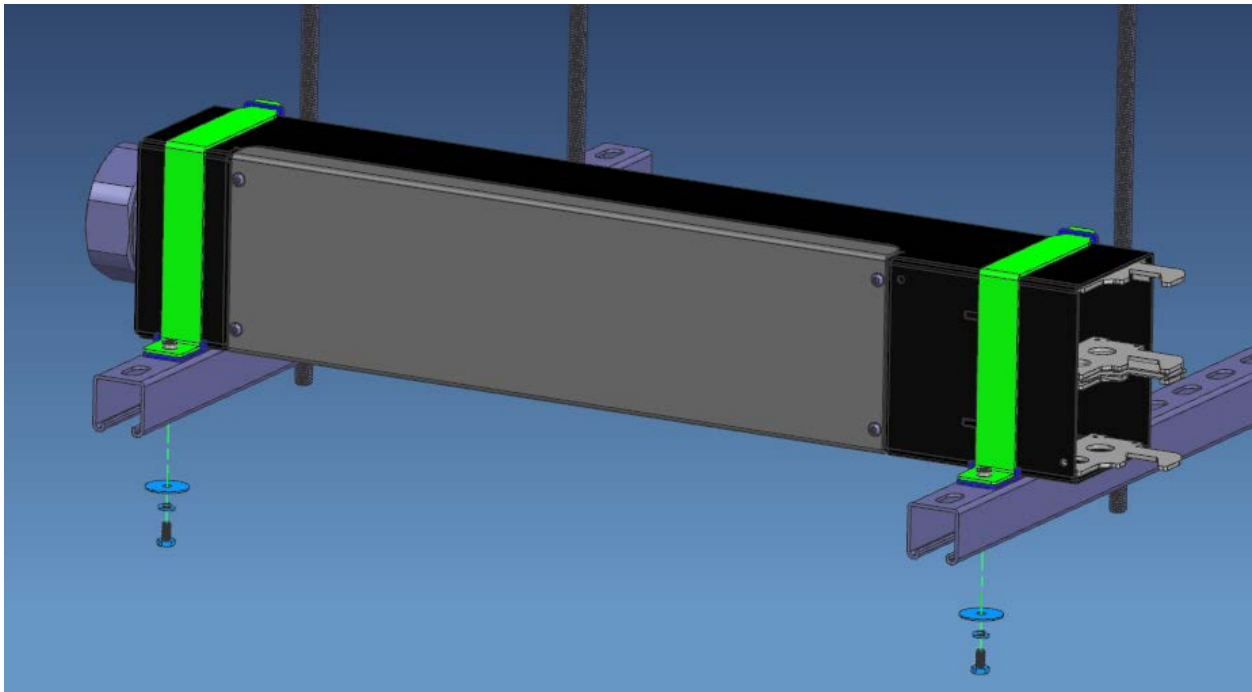

Figure 7 – Top bracket installation
4. Install Top brackets and secure with included bolts and hardware (Figure 7).